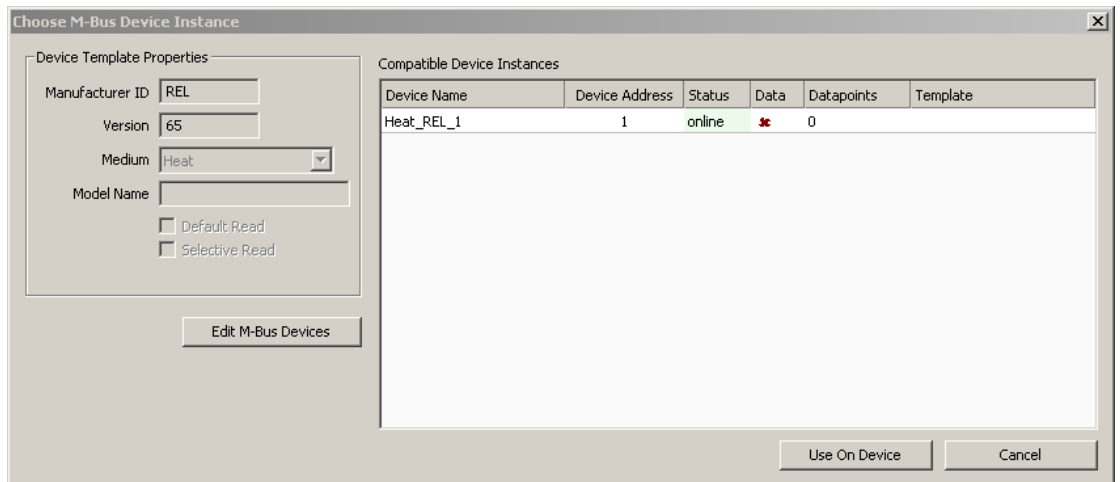

Figure 198: Use on Device dialog.
3. Either press on the **Use on Device** button  or right-click and select **Use on Device**. This opens the **M-Bus Configure Device For Use** dialog shown in Figure 198.